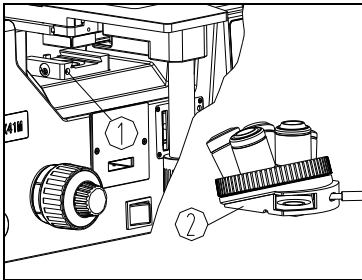

Fig. 6
(2) Loose the lock screw ①. (Fig.6)
(3)Set the nosepiece and lock. (Fig.6)